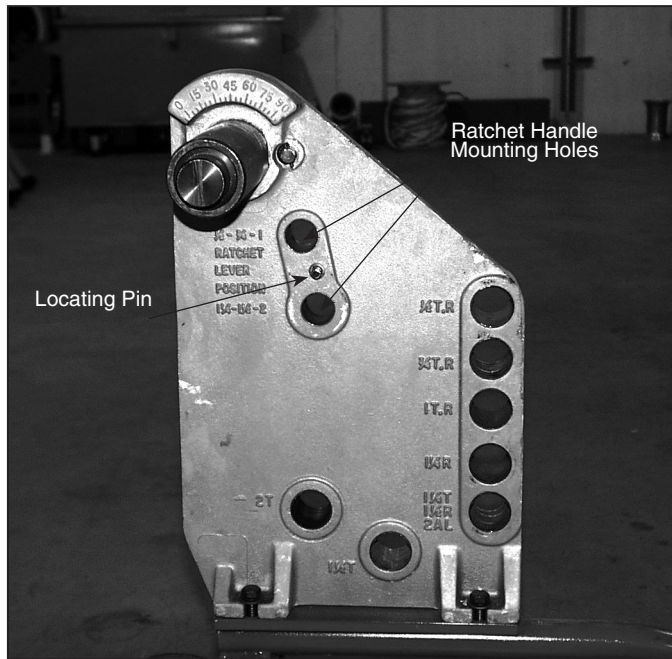

Fig. 1
1. The bender frame has two mounting holes for the ratchet handle and a locating pin in the area between the two holes, figure 1.